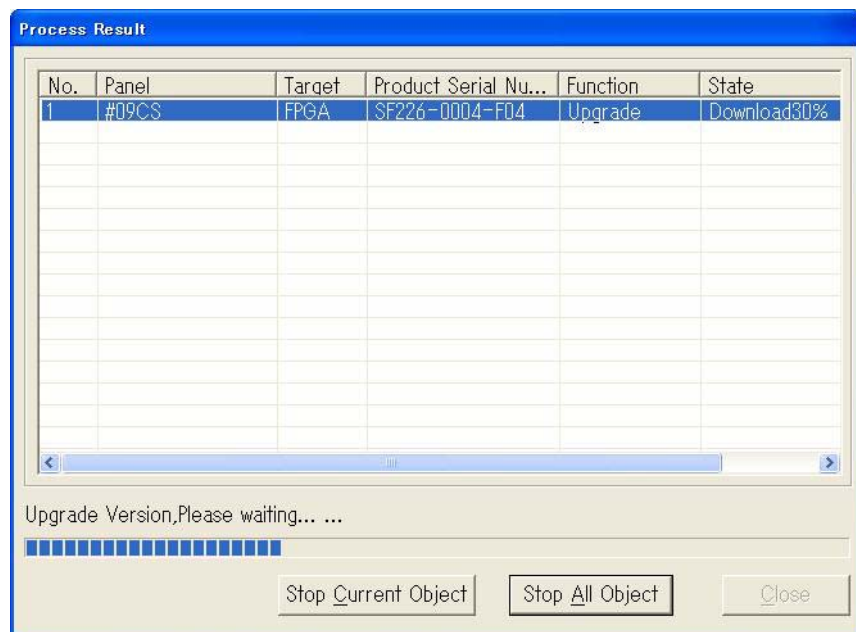

Fig. 4-10-10 Upgrade F/W and FPGA Dialog Box during Upgrading
- 12 During the upgrading operation, the window is shown in **Fig. 4-10-10**: